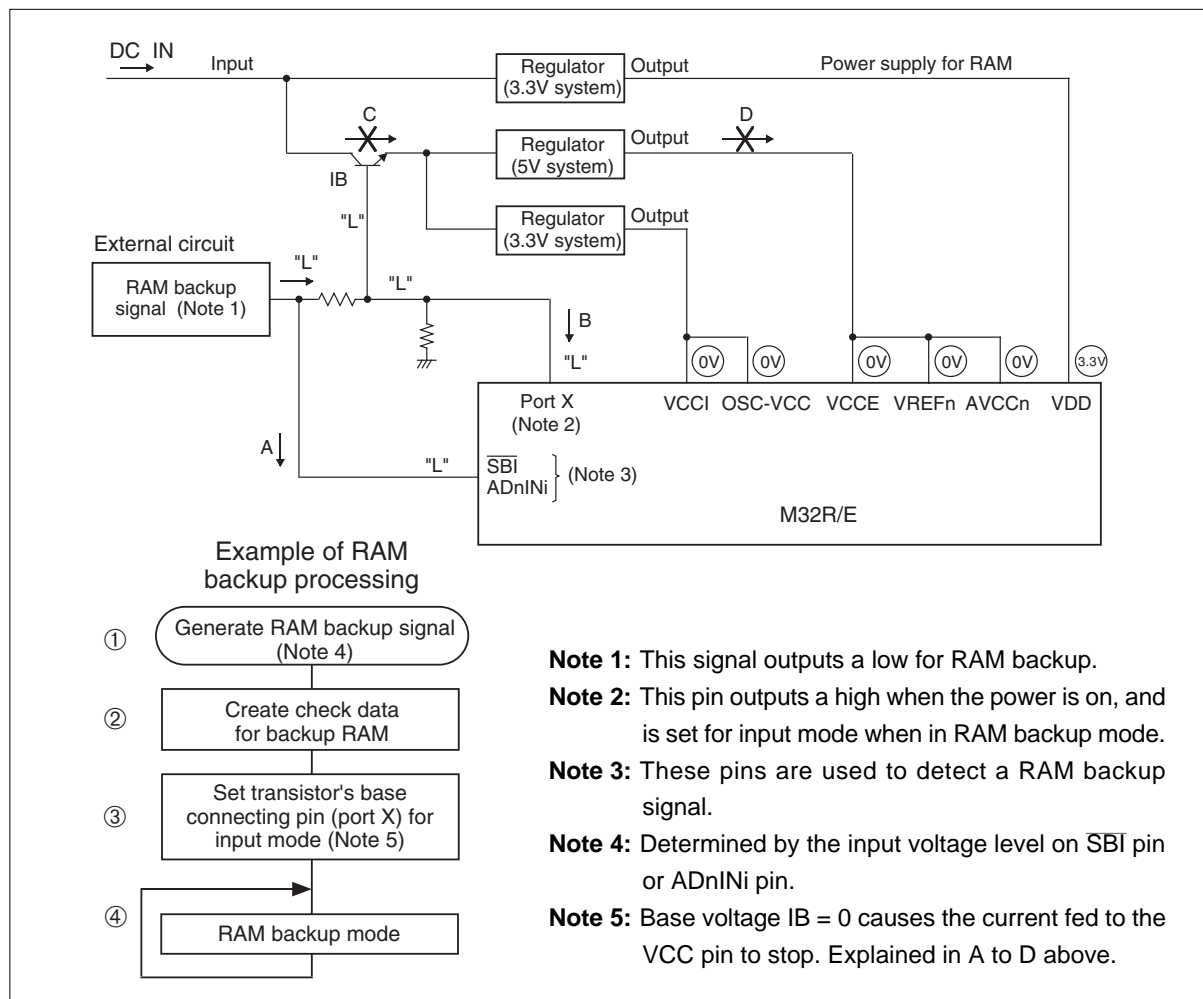
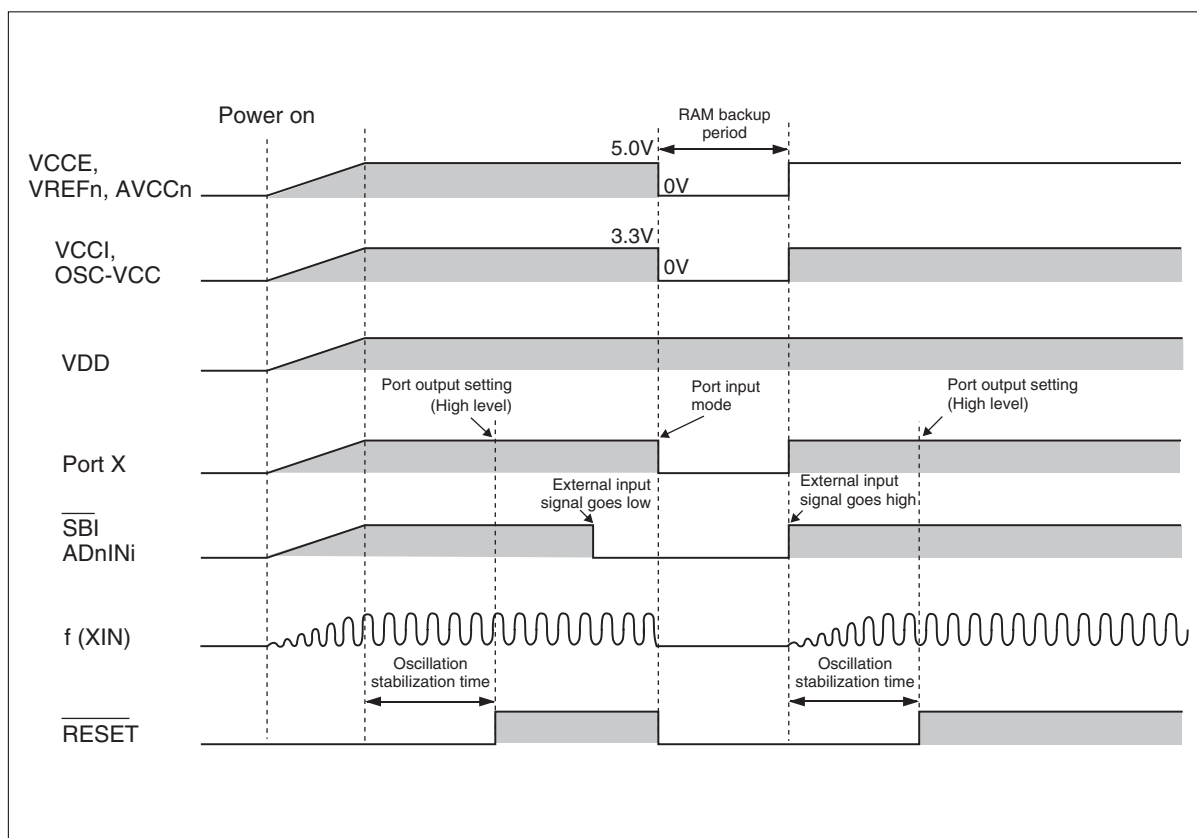

Figure 17.3.3 RAM Backup State for Low-Power Operation
Figure 17.3.4 Example of RAM Backup Sequence for Low-Power Operation
Figure 17.3.3 shows the RAM backup state of the M32R/E. Figure 17.3.4 shows a RAM backup sequence. When the external circuit outputs a low, input on the  $\overline{\text{SBI}}$  pin or  $\text{ADnINi}$  pin goes low. A low on these input pins generates a RAM backup signal (A and ① in Figure 17.3.3). To enable RAM backup mode, make the following settings.
- (1) Create check data to verify after returning from RAM backup to normal mode whether the RAM data has been retained normally (② in Figure 17.3.3).
- (2) To materialize low-power operation, set all programmable input/output pins except port X for input mode (or for output mode, with pins outputting a low) (③ in Figure 17.3.3).
- (3) Set port X for input mode (B and ④ in Figure 17.3.3). This causes the transistor's base voltage,  $I_B$ , to go low, so that no current flows from the power supply to the VCC pin via the transistor (C in Figure 17.3.3). Consequently, the power to the VCC pin is shut off (D in Figure 17.3.3).